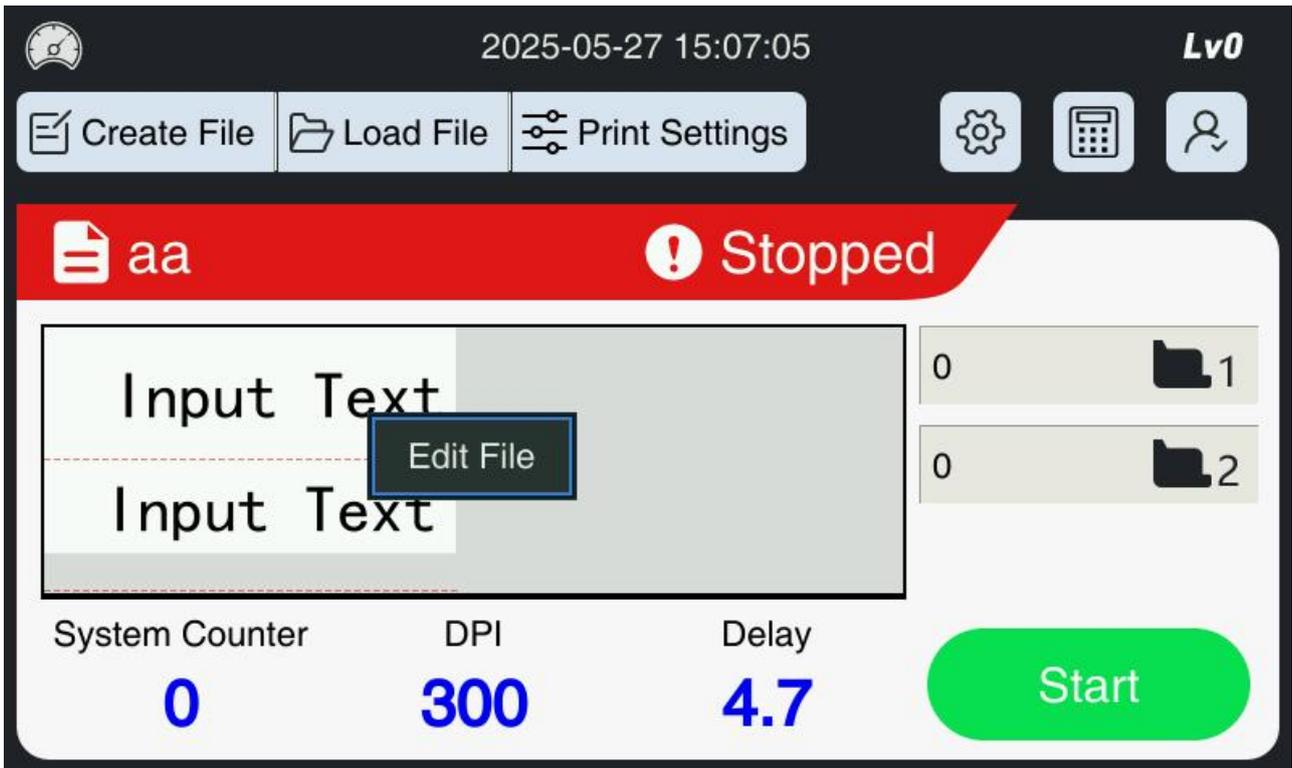

Figure 5-16 Main interface
- 1 . Long press the preview area on the main **Edit File** interface, click the button that pops up to enter the file editing interface. As shown in Figure 5-16.